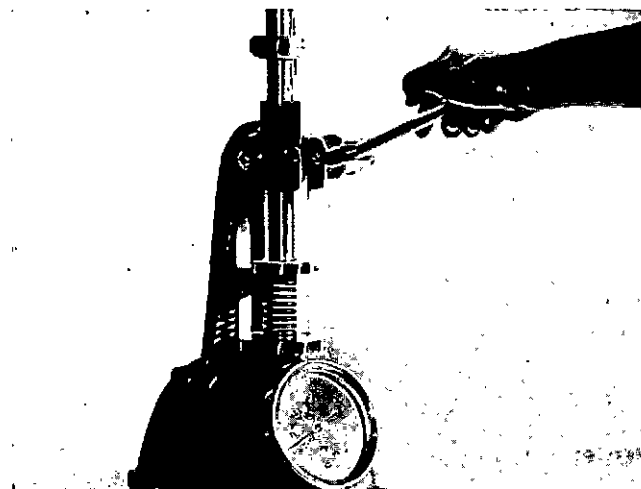

Fig. 2-16 (V10214). Test The Valve Spring.
1. Use the Part No. 3375182 valve spring tester to test the valve spring, Fig. 2-16. Compress the spring to the "working length" given in Table 2. Check the amount of force required to compress the spring, if not within the limits given in Table 2, discard the spring.